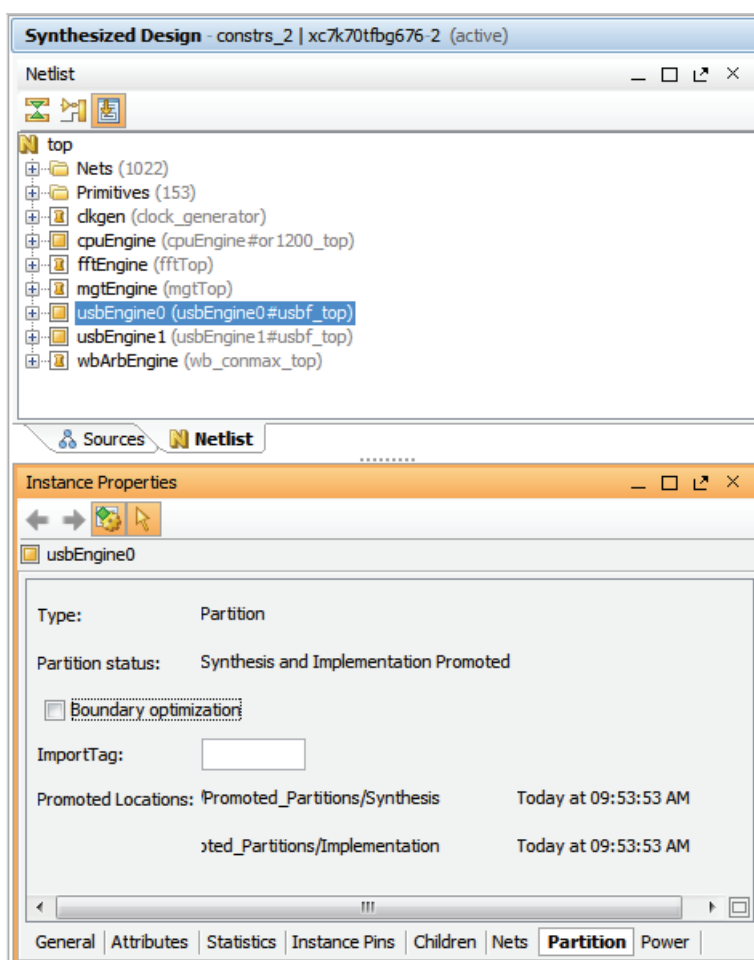

Figure 13-1: Setting Partitions in the Netlist View
3. The icon associated with the instance in the Netlist view changes to highlight that the module is defined as a partition, and a Partition tab appears in the Instance Properties view, as shown in Figure 13-1.